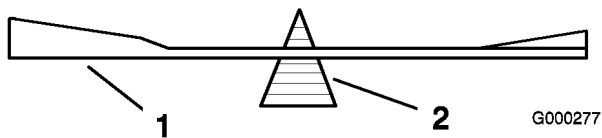
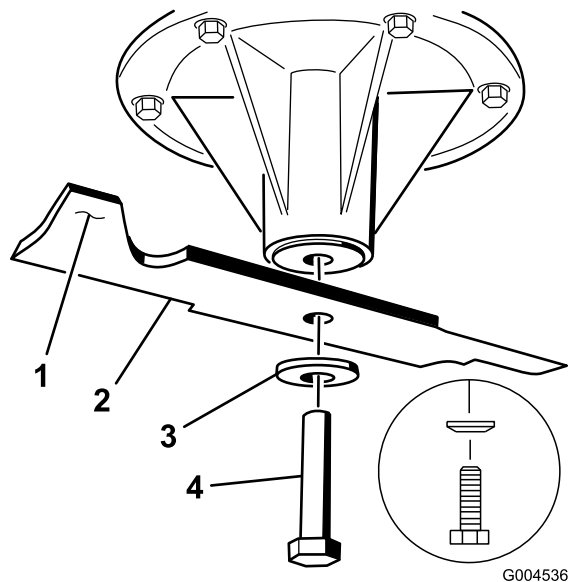

Figure 57
Figure 58
2. Remove the blade bolt, spring disk and blade from the spindle shaft (Figure 58).
2. Check the balance of the blade by putting it on a blade balancer (Figure 57). If the blade stays in a horizontal position, the blade is balanced and can be used. If the blade is not balanced, file some metal off the end of the sail area only (Figure 58). Repeat this procedure until the blade is balanced.
1. Install the blade onto the spindle shaft (Figure 58).
2. Install the spring disk and blade bolt. The spring disk cone must be installed toward the bolt head (Figure 58). Torque the blade bolt to 85-110 ft-lb (115-150 N•m).